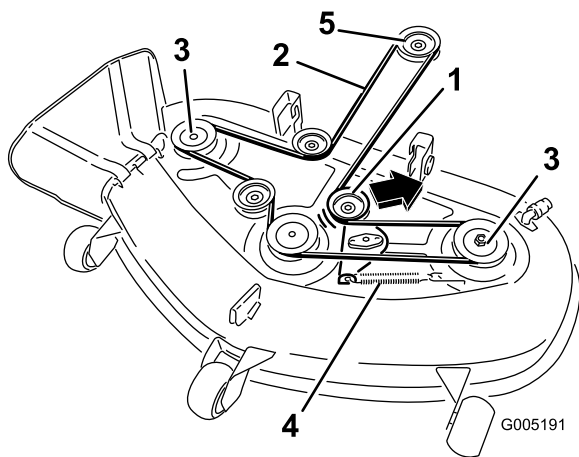

Figure 55
5. Pull the idler pulley in the direction shown in Figure 55 and roll the belt off of the pulleys.
- Route the new belt around the engine pulley and mower pulleys (Figure 55).
- Pull the idler pulley in the direction shown in Figure 55 and route the belt onto the idler pulley (Figure 55).